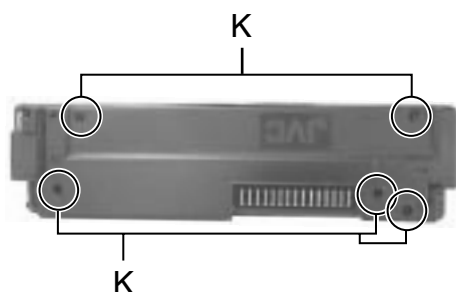

Fig 9
■ Front panel unit (See Fig.9)